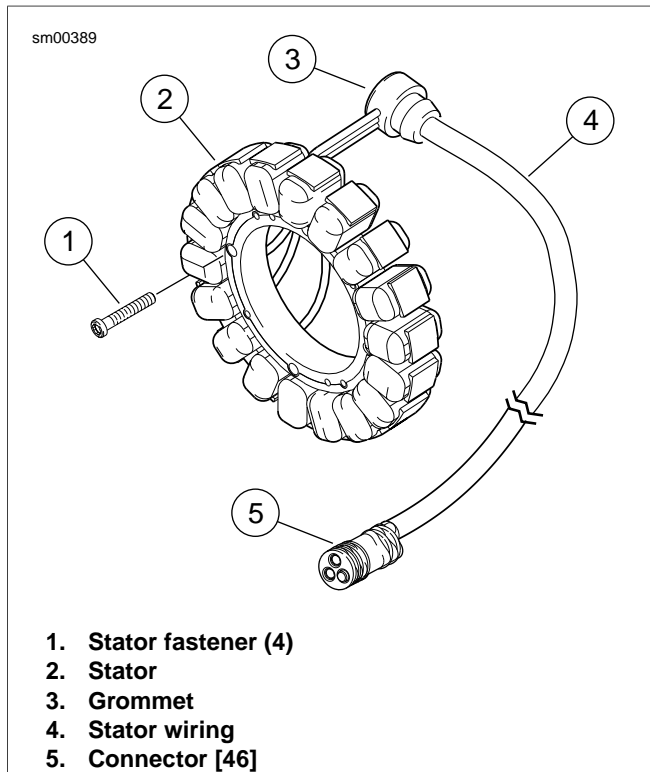
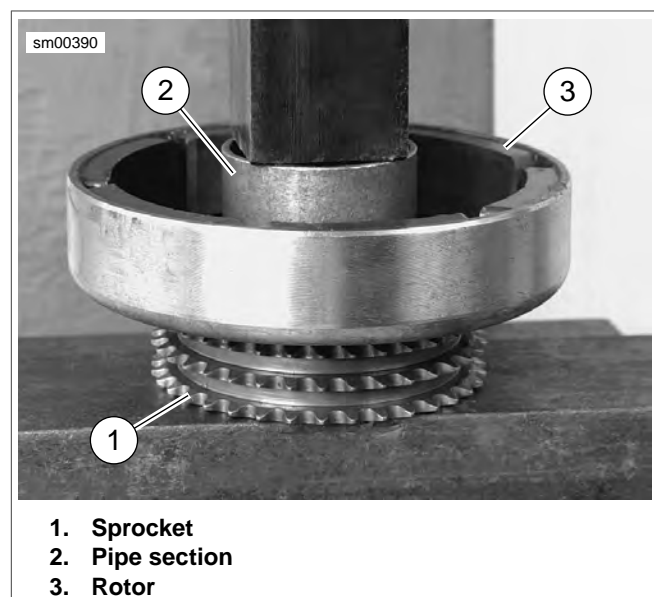

Figure 6-30. Stator Assembly
Figure 6-31. Pressing Rotor onto Sprocket
1. See Figure 6-30. Disconnect stator wiring (4) from voltage regulator wiring at connector (5) [46] under the left ram air scoop. See 6.30 SPROCKET COVER WIRING.
1. See Figure 6-30. Feed stator wiring (4) with attached grommet (3) into open grommet hole in left crankcase half.
5. See Figure 6-30. Route stator wiring (4) behind rear cylinder along the bottom of the left ram air scoop. Connect wires and install cable straps to air scoop. Install air scoop. 2.49 AIR SCOOPS.
6. Route stator wire (4) between the vent oil line and the return oil line.
7. See Figure 6-31. Attach rotor to sprocket.
- a. Position rotor (3) on sprocket (1). Align holes in sprocket with holes in rotor.
- c. Position a section of pipe (2) with an inside diameter larger than the sprocket mounting hub over center of rotor. Press rotor onto sprocket. Tighten fasteners to 120-140 **in-lbs** (13.5-15.8 Nm).